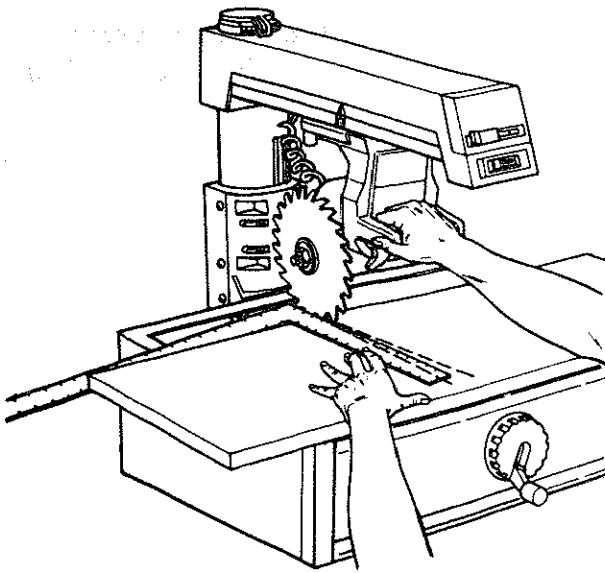

Fig. 54
8. Lay a framing square on the *front table* with the long edge along the back of the *table* and the short edge alongside the *blade* (Figure 54).
9. Move the framing square toward the *blade* until a tooth of the *blade* just touches the edge of the square (Figure 54).
If the marked tooth moves away from the square or tries to "walk" on top of it, go to step 13 (Figure 54).